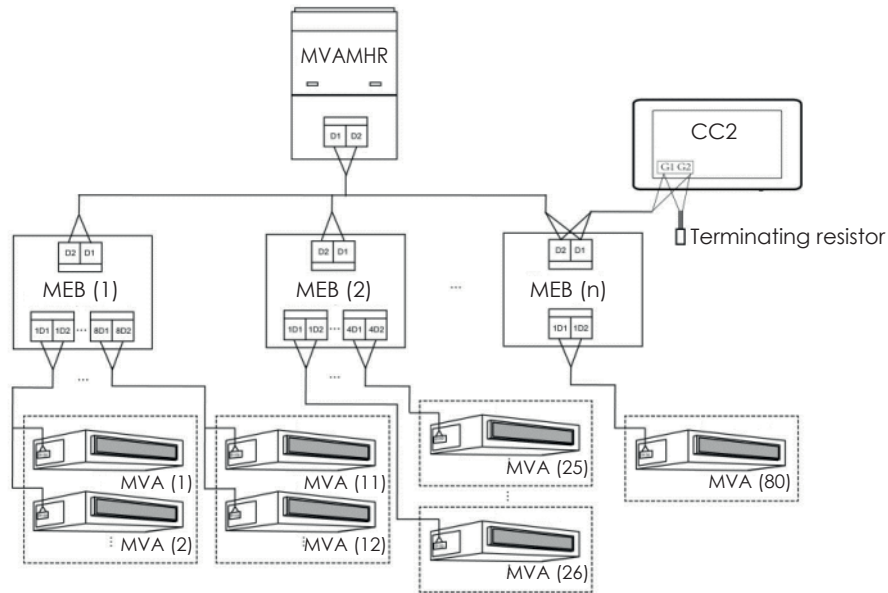

Fig. 3.6 Centralized controller connected to the network in a 3-pipe system
5. If the centralized controller has to be connected to the network of a 3-pipe system, carry out the connections according to fig. 3.6. Mode 2 is also applicable to the switching of the centralised controller in 3-pipe systems.